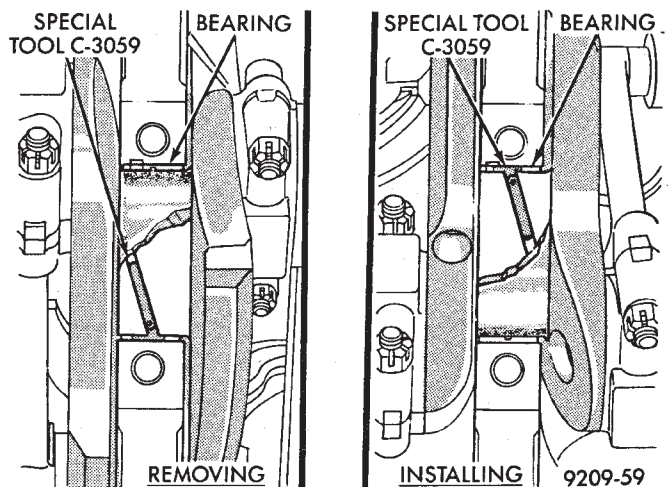

Fig. 8 Removing and Installing Upper Main Bearing With Special Tool C-3059
(1) Remove oil pan and identify bearing caps before removal.
(2) Remove bearing caps one at a time. Remove upper half of bearing by inserting Special Main Bearing Tool C-3059 (Fig. 8) into the oil hole of crankshaft.
(3) Slowly rotate crankshaft clockwise, forcing out upper half of bearing shell.
(1) Start bearing in place, and insert Main Bearing Tool C-3059 into oil hole of crankshaft (Fig. 8).
(2) Slowly rotate crankshaft counter-clockwise sliding the bearing into position. Remove Special Main Bearing Tool C-3059.